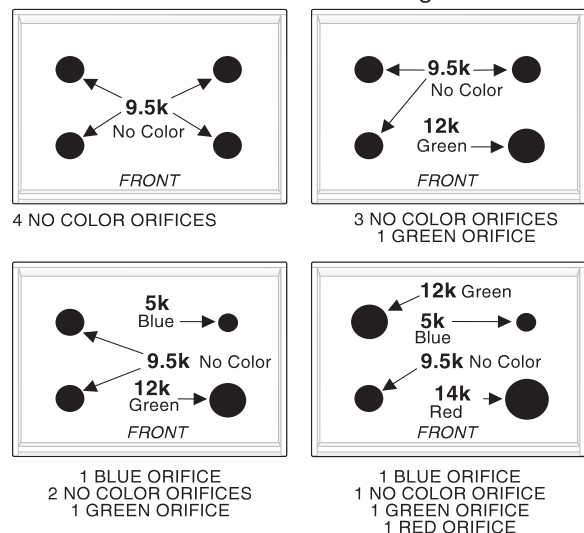

Figure 4
- Replace the orifice in each of the four orifice holders with the correct LP/Propane gas orifice (refer to the LP Kit chart listed on page 1; also refer to Figures 4 and 5 for the correct LP orifice installation at each of the four surface burner locations). Tighten each orifice until snug. Use caution not to overtighten.